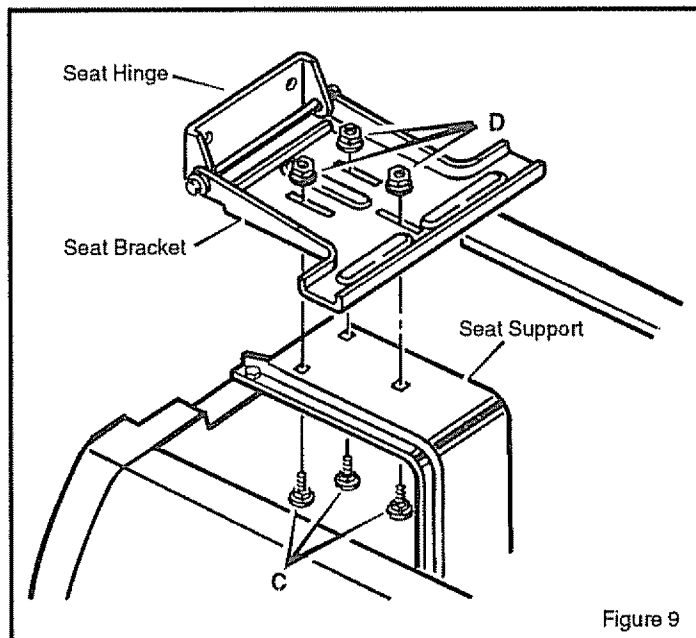

Figure 9
1. Set the **seat bracket** on the **seat support** (Figure 9). Pull the **wire harness** between the **seat hinge** and the **seat bracket**.